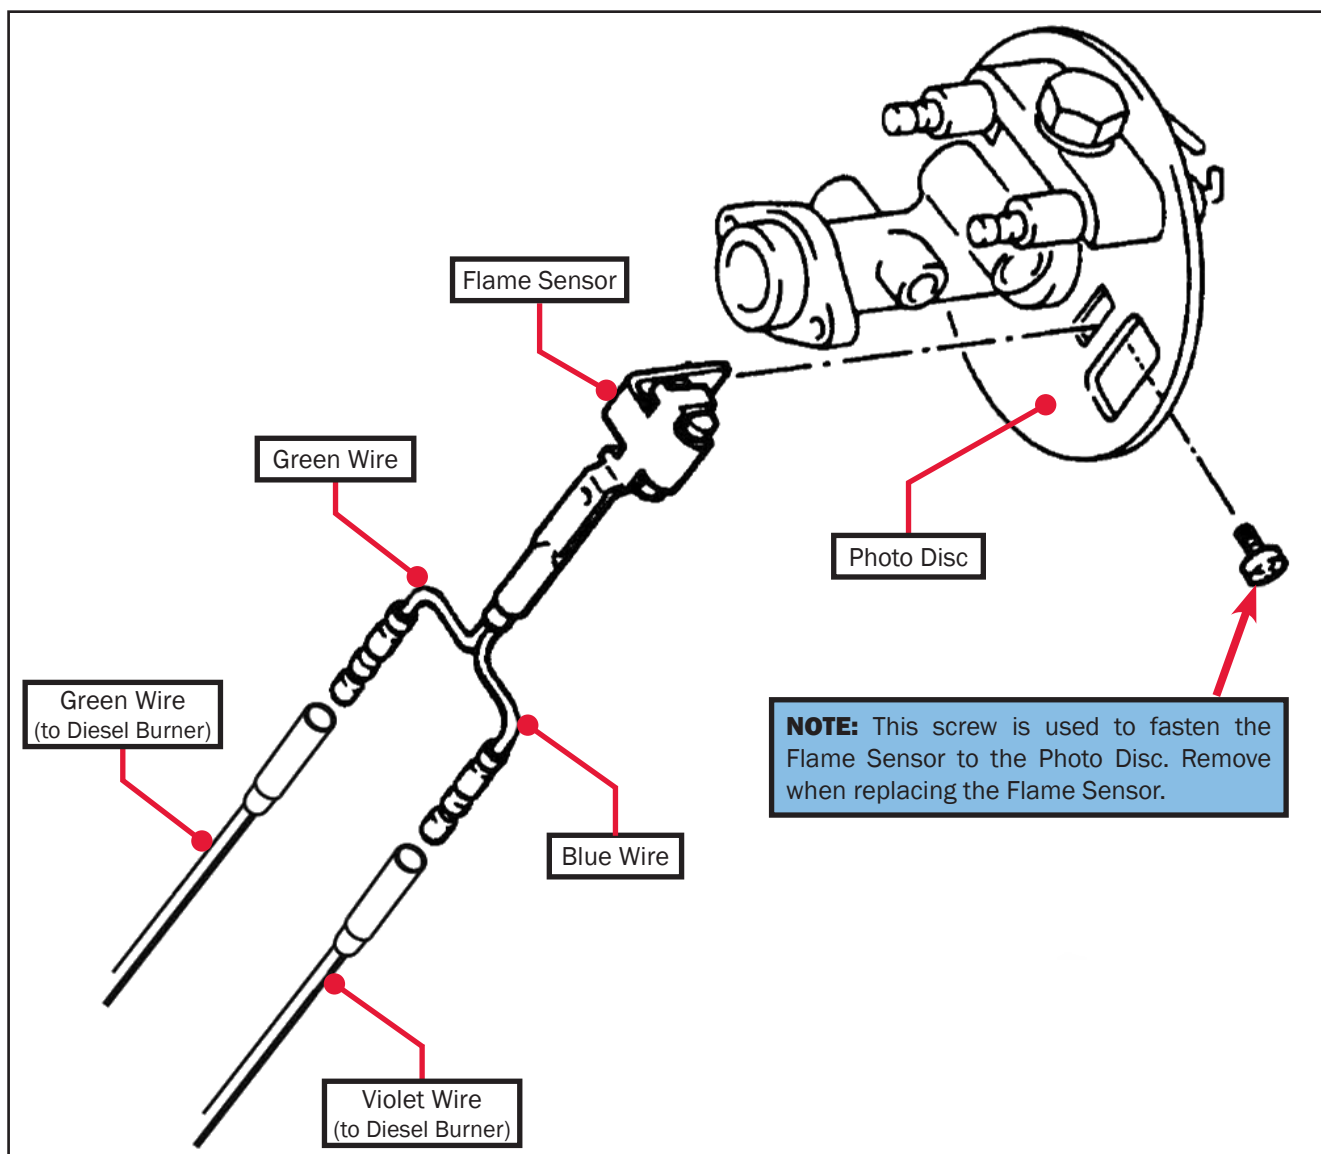

Figure 96
2. Remove the screw that fastens the flame sensor to the photo disc (as shown in Figure 96), and detach the flame sensor's green and blue wires from the C-plug harness' green and violet wires. Remove the defective flame sensor.